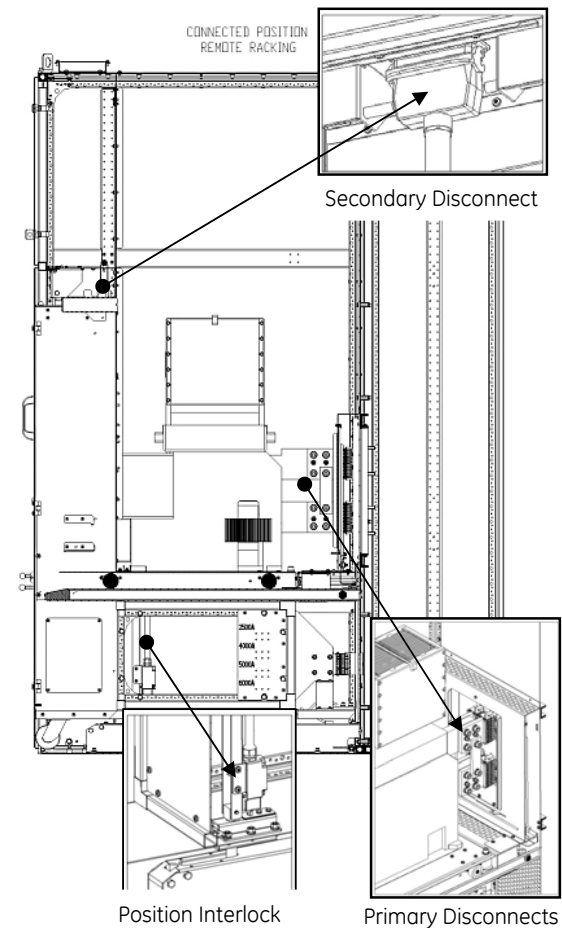

Fig. 73-1 CONNECTED position for the remote racking trolley
1. CONNECTED position - Primary Disconnects and Secondary Disconnect in full contact, breaker ready for normal operation. Position Interlock, see Fig. 73-1, keeps the trolley in this position.